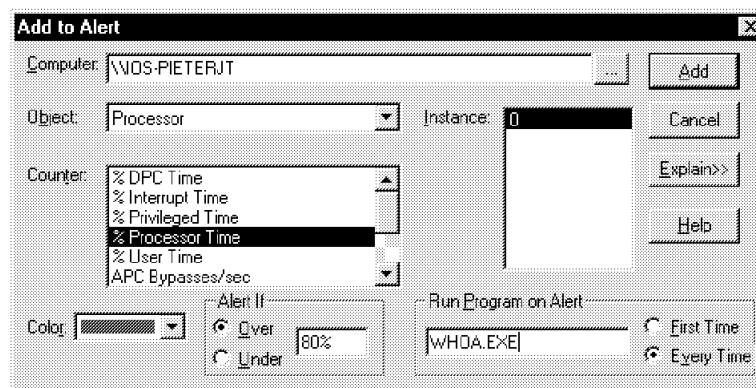

Figure 101. Adding an Alert
To add an object for monitoring in Alert view, click on **Add to Alert** from the Edit pull-down menu, or click on smart icon . You will see a window similar to the one in Figure 101.
4. Supply a numeric value in the Alert If field (see Figure 101 on page 125).
5. You can supply an optional program or batch file name in the Run Program on Alert field (see Figure 101 on page 125). This program or batch file will be triggered once the threshold value is reached.